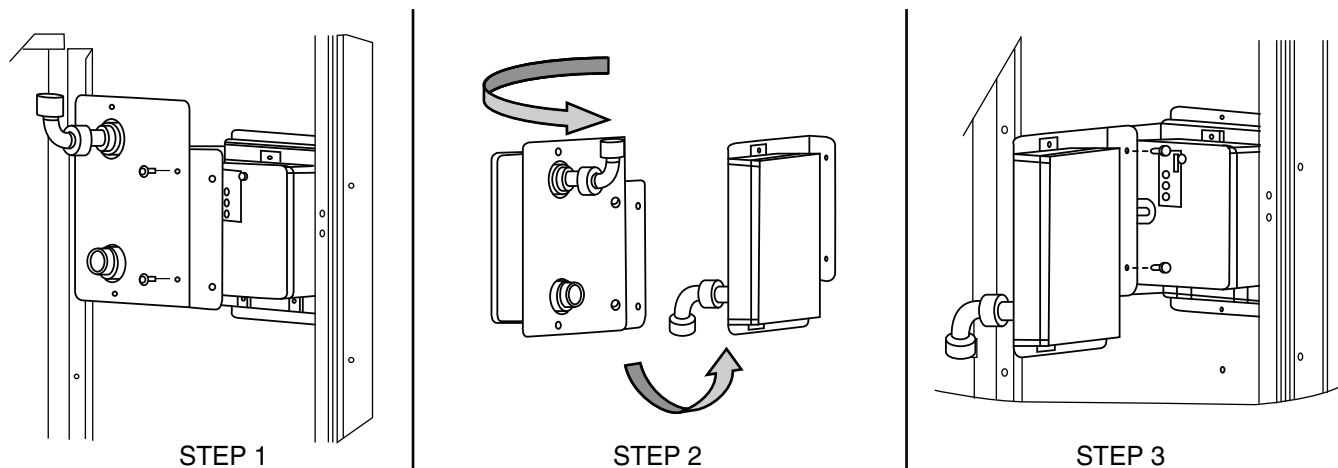

Fig. 57 — Completing Installation of Return Air Smoke Sensor
1. Unscrew the two screws holding the Return Air Smoke Detector assembly. See Fig. 57, Step 1. Save the screws.
2. Turn the assembly 90 degrees and then rotate end to end. Make sure that the elbow fitting is pointing down. See Fig. 57, Step 2.
3. Screw the sensor and detector plate into its operating position using screws from Step 1. See Fig. 57, Step 3.